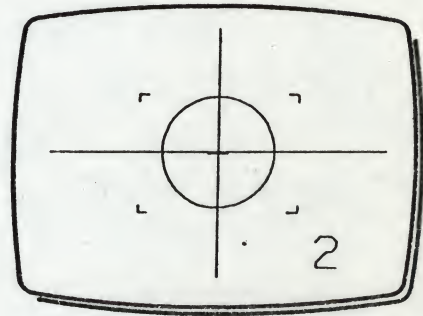

Fig 2
- 4 Move XY and rotate Z to position the frame cursor over the circle, (2) in Fig 2, enclosing the circle closely.